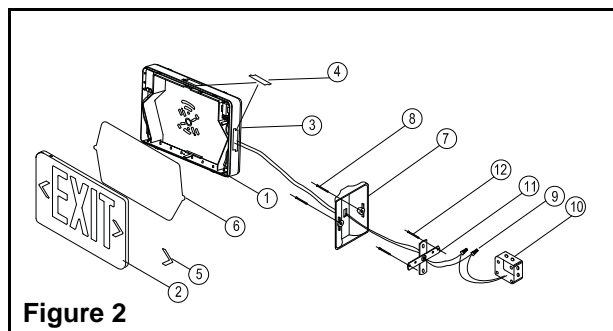

Figure 2
- b. Remove the mounting hole cover from the top or side of the unit depending on your mounting configuration (see figures 2 and 3)
- c. Install canopy according to mounting configuration (see figures 2,3 and 5).